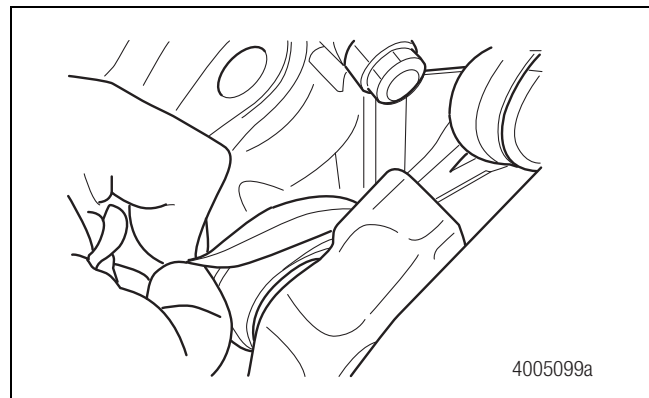

Figure 6.56
4. Verify that the slide pin boots are correctly located on both the carrier and housing retainers. Figure 6.56.